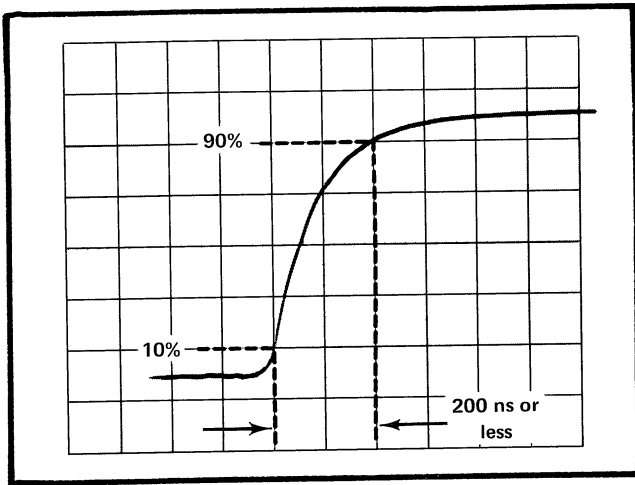

Fig. 5-2. Typical display of Output Pulse for checking Risetime.
b. Display the Output Pulse as shown in Fig. 5-2.